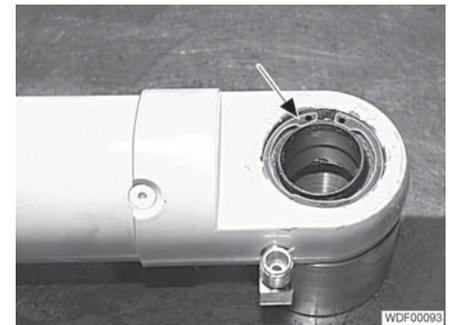

Fig. 113 Securing the bearing
- Insert the locking ring (Fig. 113).